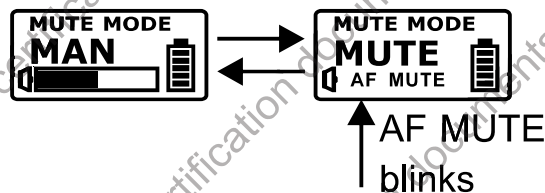

Fig. 16
(2) MAN (Manual): the mute function is controlled by MUTE button. Fig. 16
- (a) Press MUTE button to mute the transmitter, and the Audio Signal Level Bar ①9 shows AF MUTE and blinks. Press again to unmute and the blink stops.